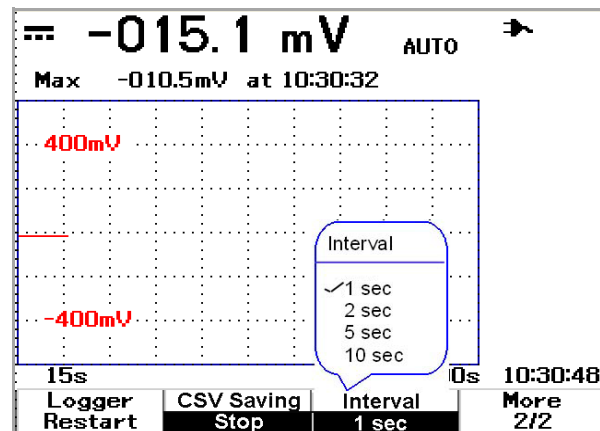

Figure 5-4 Setting the interval
- 4 To change the interval settings, press F3 repetitively to scroll down the list and make the selection (refer to Figure 5-4 below).